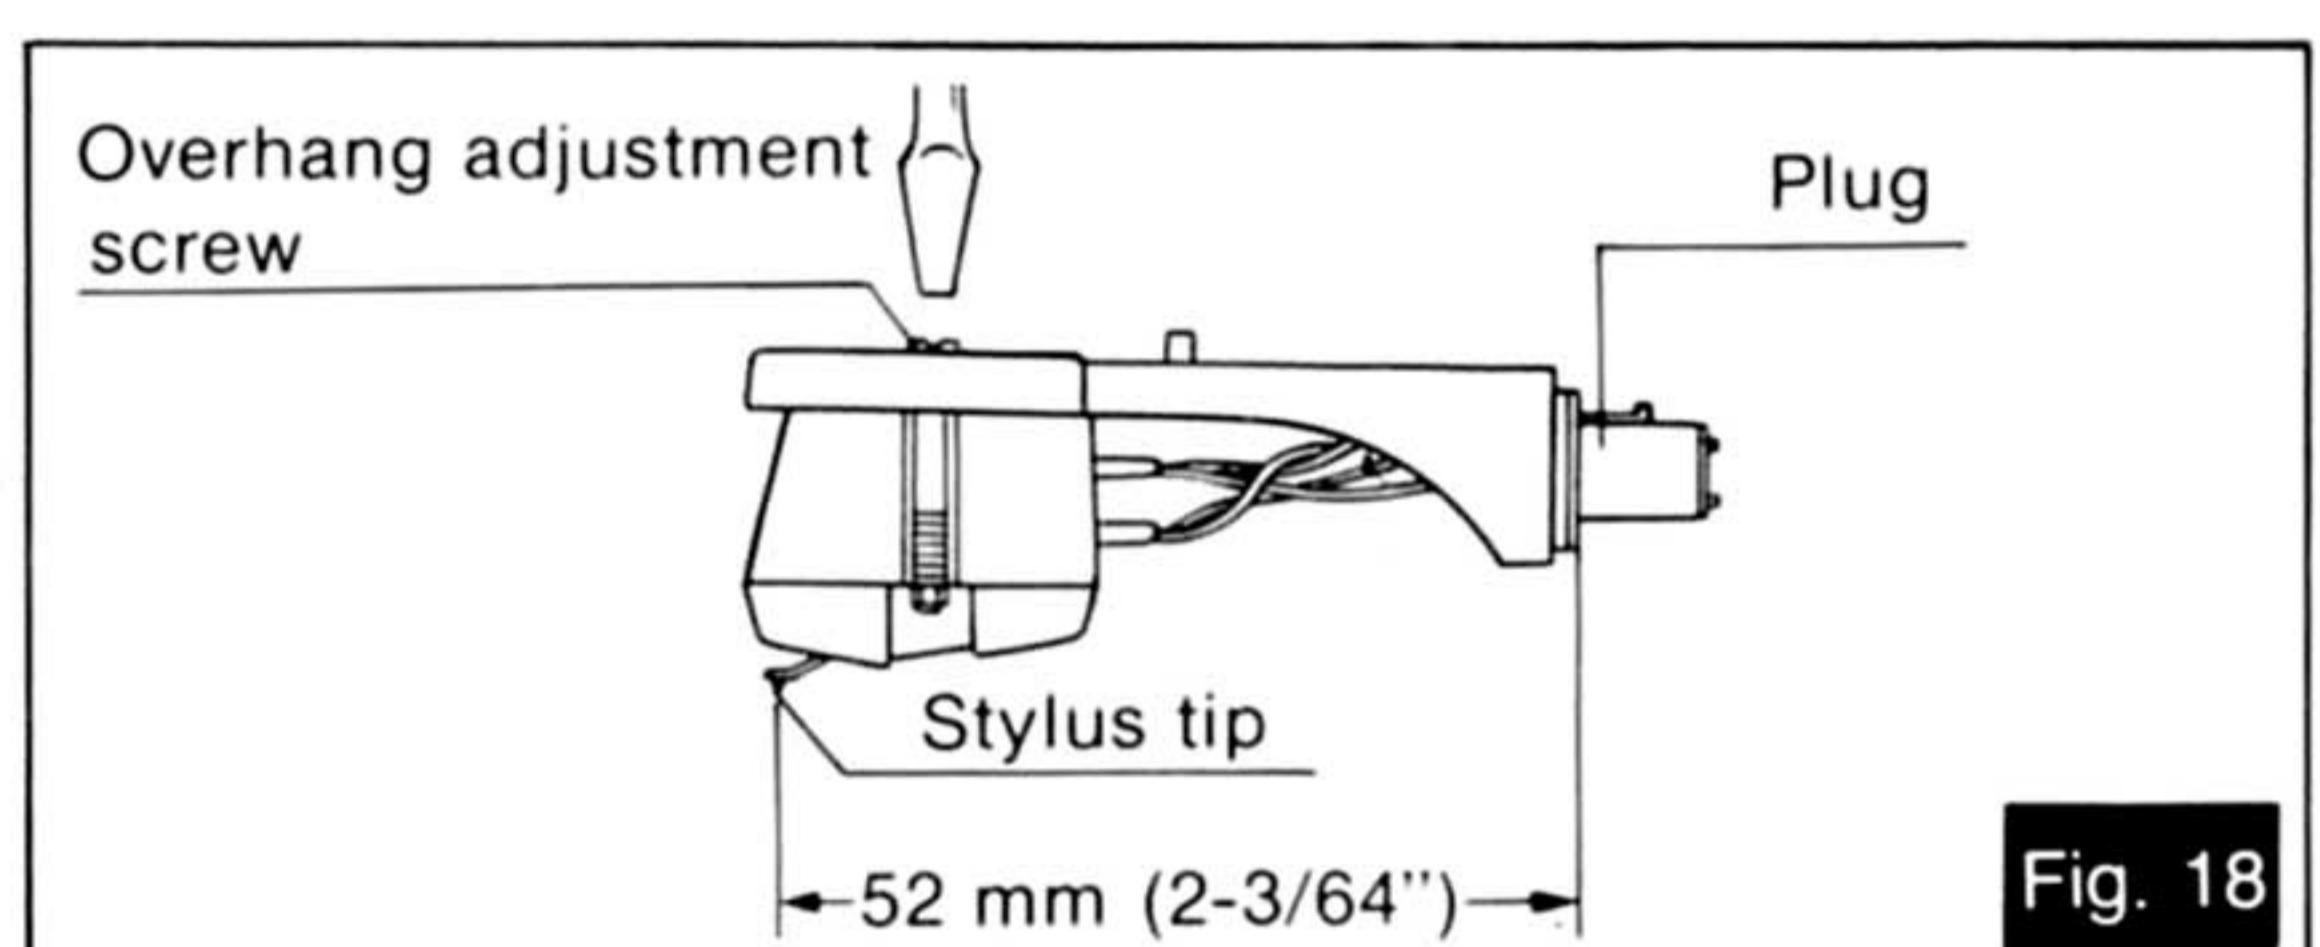

Fig. 18
3. Loosen overhang adjustment screw and move the cartridge forward or backward until the distance between the stylus tip and the plug become 52 mm (2-3/64") as shown in the picture. (See Fig. 18.)
⑨ Replacement of the stylus.